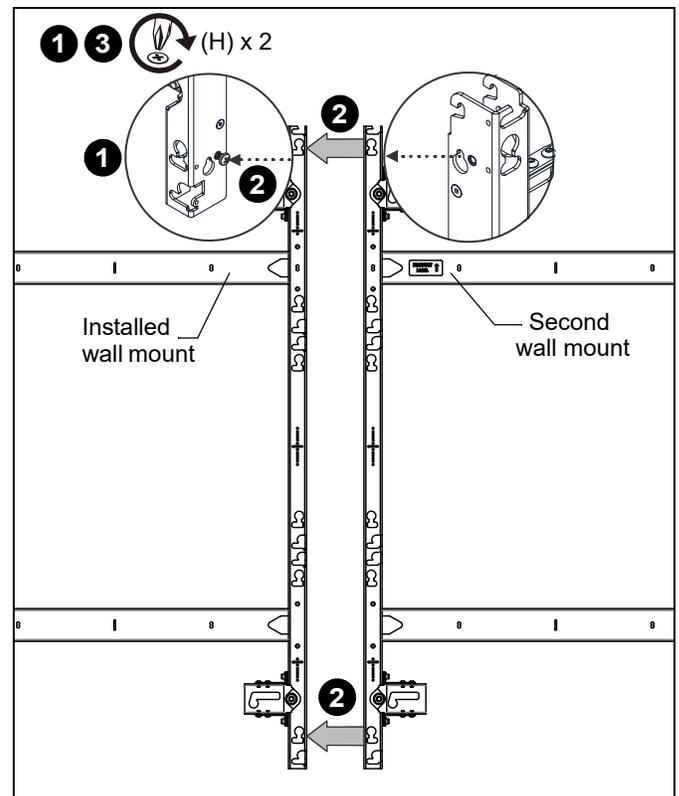

Figure 13
- Hang the second mount (using teardrop slots at top and bottom on the left side) onto the fasteners installed in Step 1. (See Figure 13)
- Fully tighten fasteners installed in Step 1. (See Figure 13)
11. Re-tighten connector screws, upper and lower. (See Figure 13)